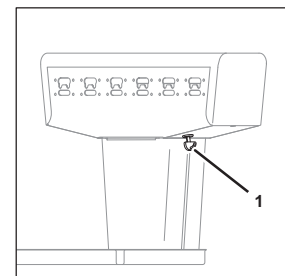

Fig. 43
1. Turn the key switch (Fig. 43/1) to position "1".